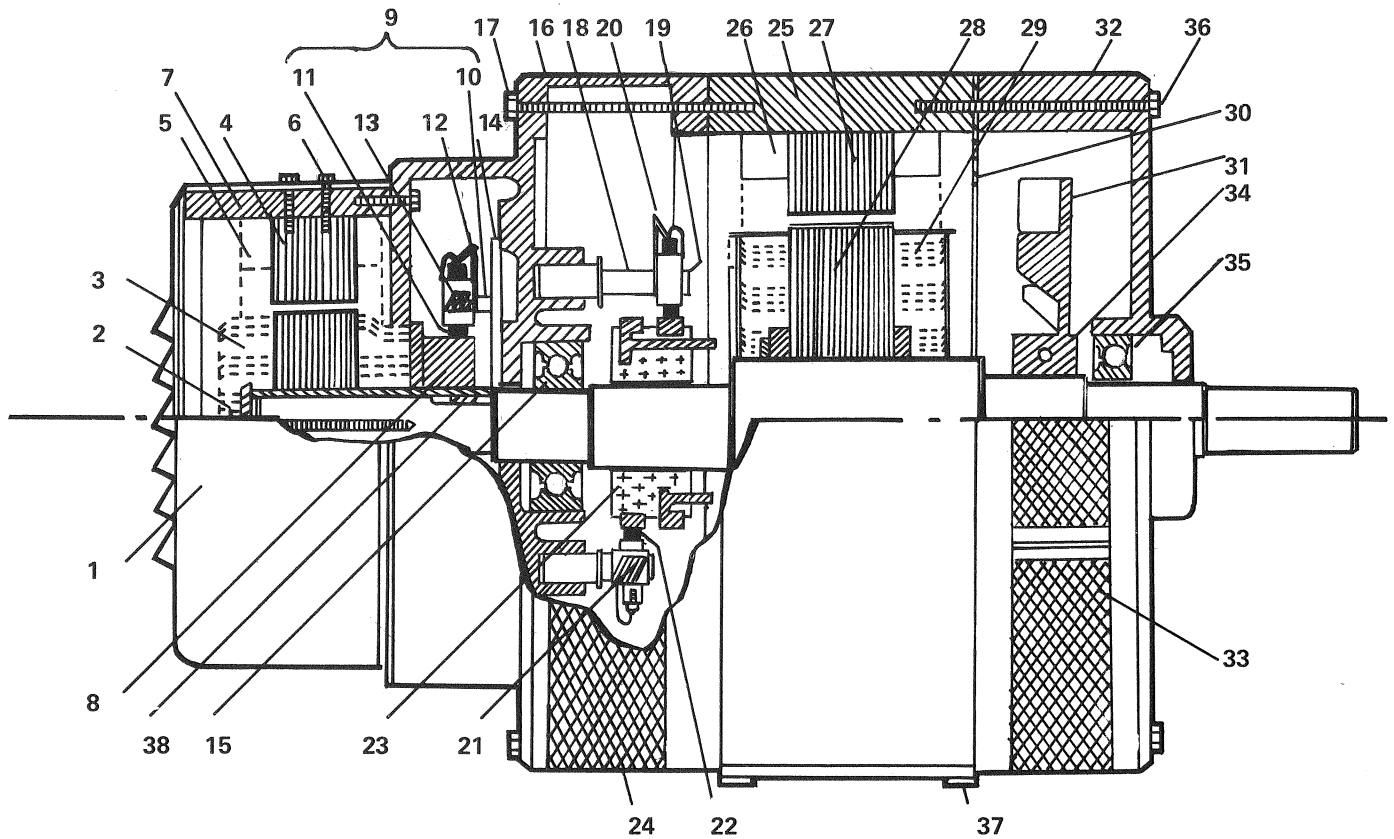

FIGURE 4-6 CROSS SECTIONAL VIEW - TYPICAL KATO REVOLVING FIELD TWO-BEARING GENERATOR WITH DIRECT CONNECTED BRUSH TYPE DC EXCITER.
4.19.2 Disassemble generator of the type described above and as shown in figure 4-6 as follows:
- c. Remove exciter cover (1). Make sure brushes (11) and (22) are raised in holders before generator is disassembled.
- g. Remove exciter armature retaining bolt and washer (2).
- h. Remove exciter armature (3), and when used, aligning key (38).
- i. Remove commutator endbell bolts (17). Remove endbell (16).
- j. Remove drive endbell bolts (36). Remove endbell (32).